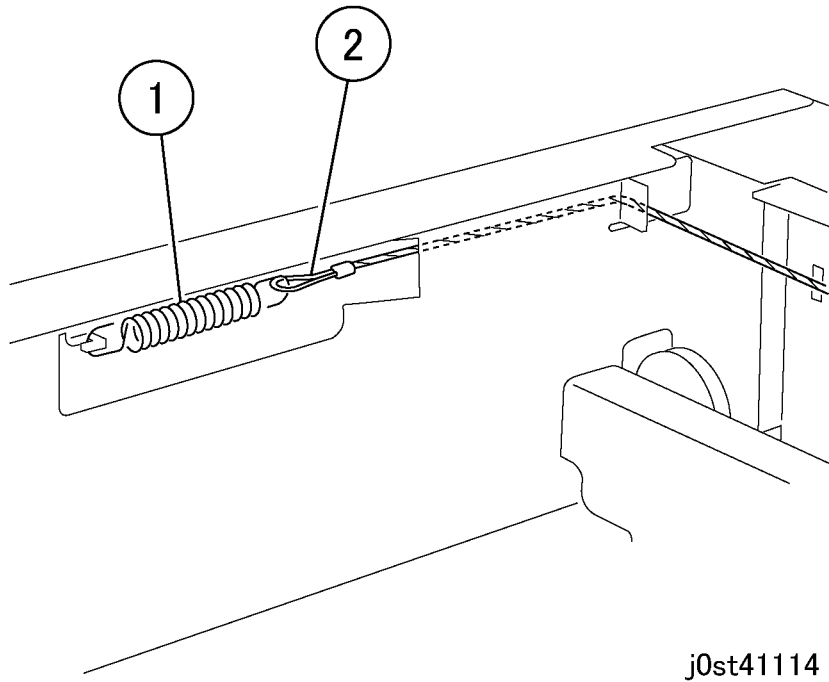

Figure 4 Removing the spring
2. Remove the screws (1).
3. Remove the Carriage Cable. (Figure 4)